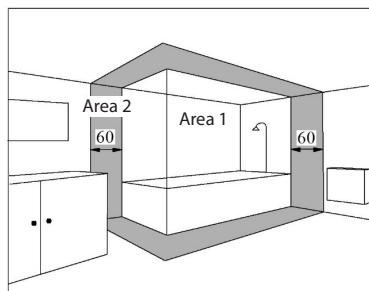

Fig. 4
**5.5** Convectors with an IP24 shell can be installed in rooms with high humidity - bathrooms, showers, swimming pools (Fig. 4). At the same time, it is prohibited to install a convector: